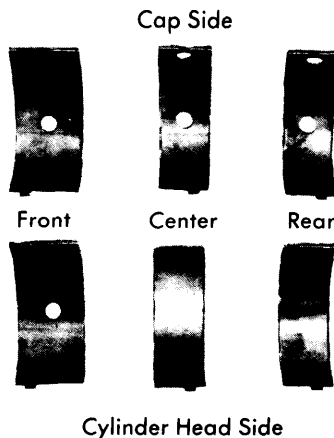

Fig. 7 Camshaft Bearing Types
3) Inspect camshaft bearing clearances using Plastigage method. If standard clearances are exceeded, replace bearings. If new bearings are properly fitted, correct clearance can be obtained without filing, shimming or scraping. Camshaft bearings are classified into three types as shown in Fig. 7.